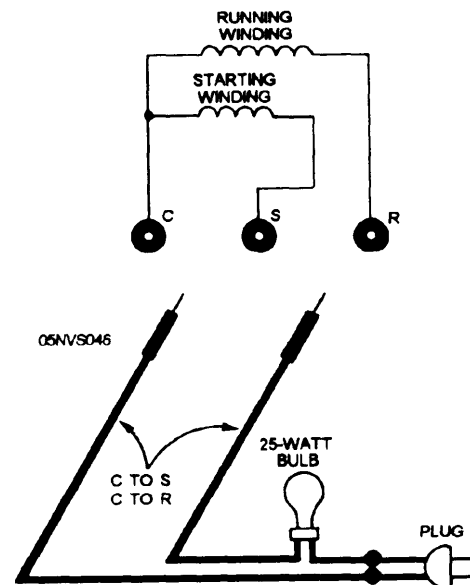

Figure 14-32.—Testing for an open winding with a test lamp.
- A simple test lamp consisting of a power circuit plug, two flexible insulated wires with clip leads, and a 25-watt socket with a bulb is used. Figure 14-32 shows the test lamp procedure.